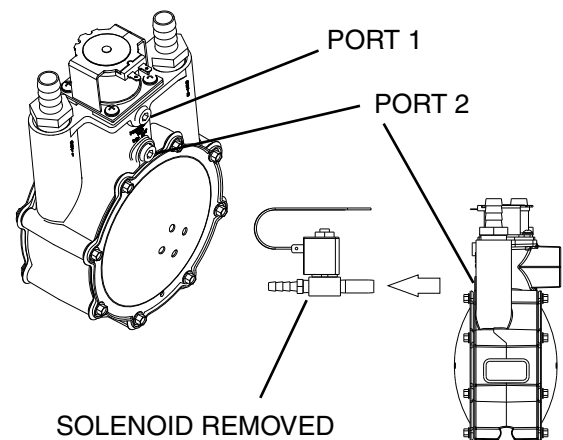

Figure 187. (10 kW) Gas Pressure Test point
1. Remove the hose from fuel solenoid (FS2) and install a manometer to Port 2 on the fuel regulator. See Figure 187.